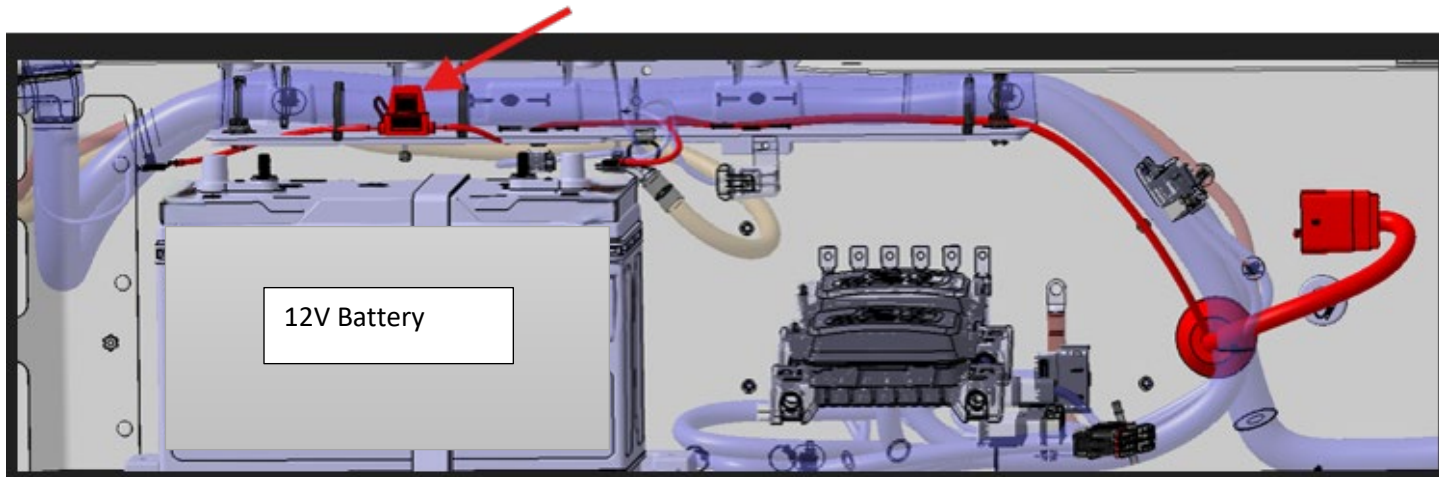

Figure 1. Amp Inline Fuse
- d. Locate 15 amp inline fuse ~6 inches rearward from the positive 12V battery terminal (fuse is sourced from the 12V battery post connection). (Figure 1)